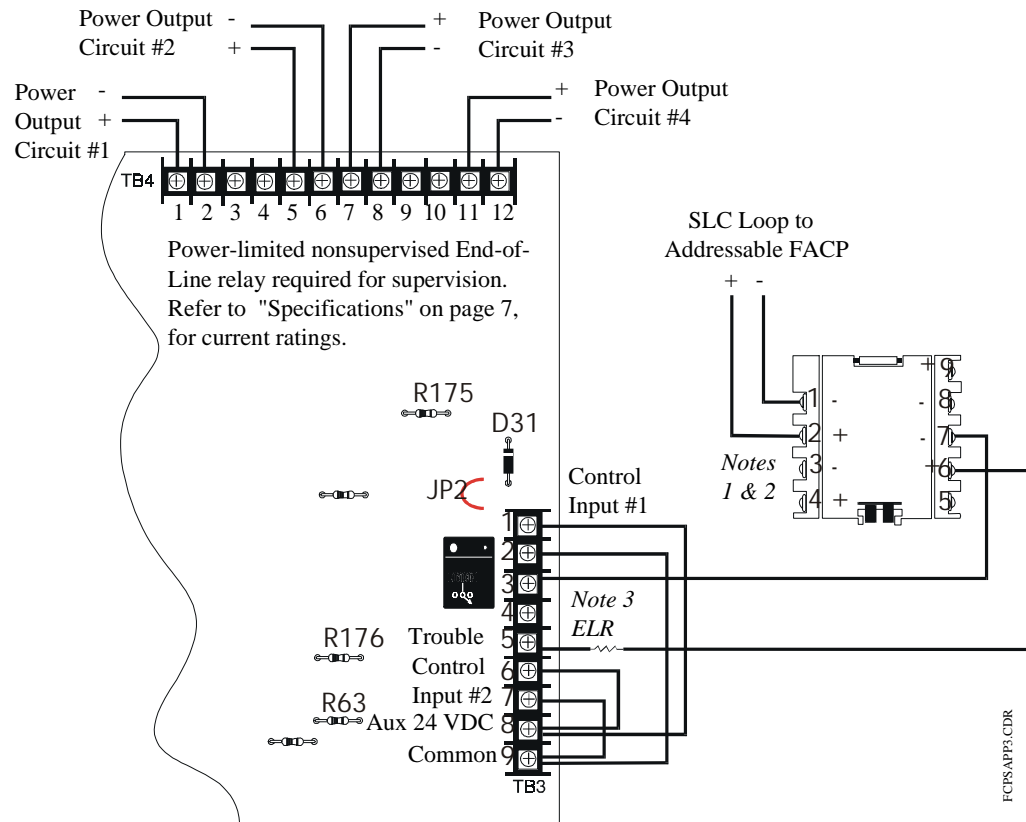
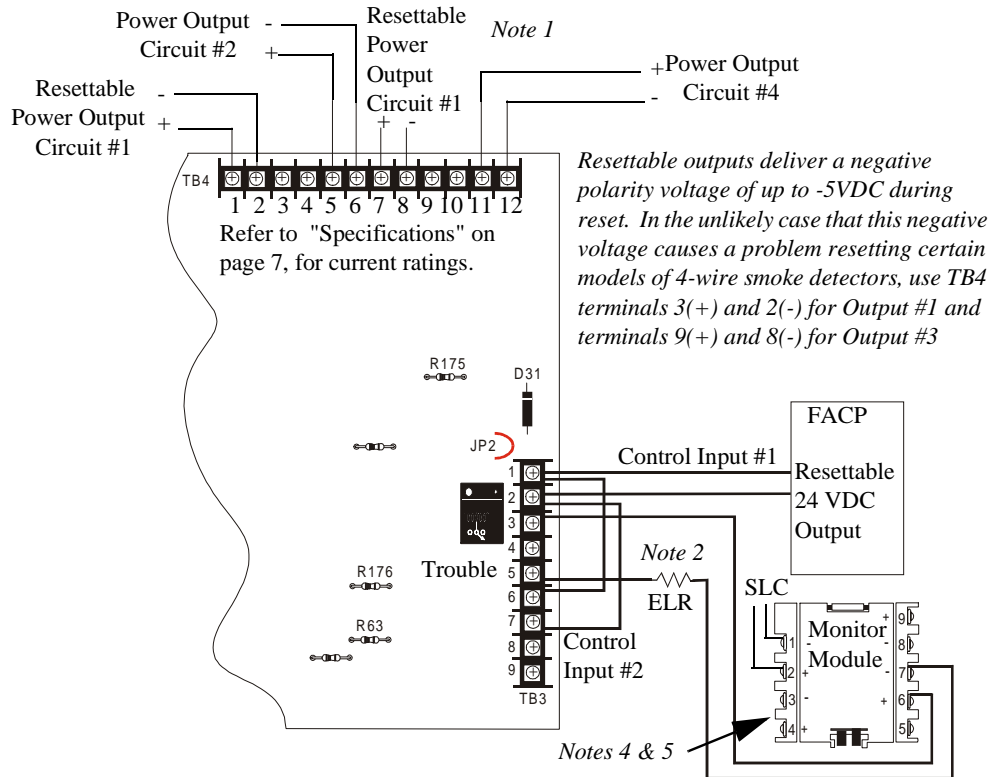
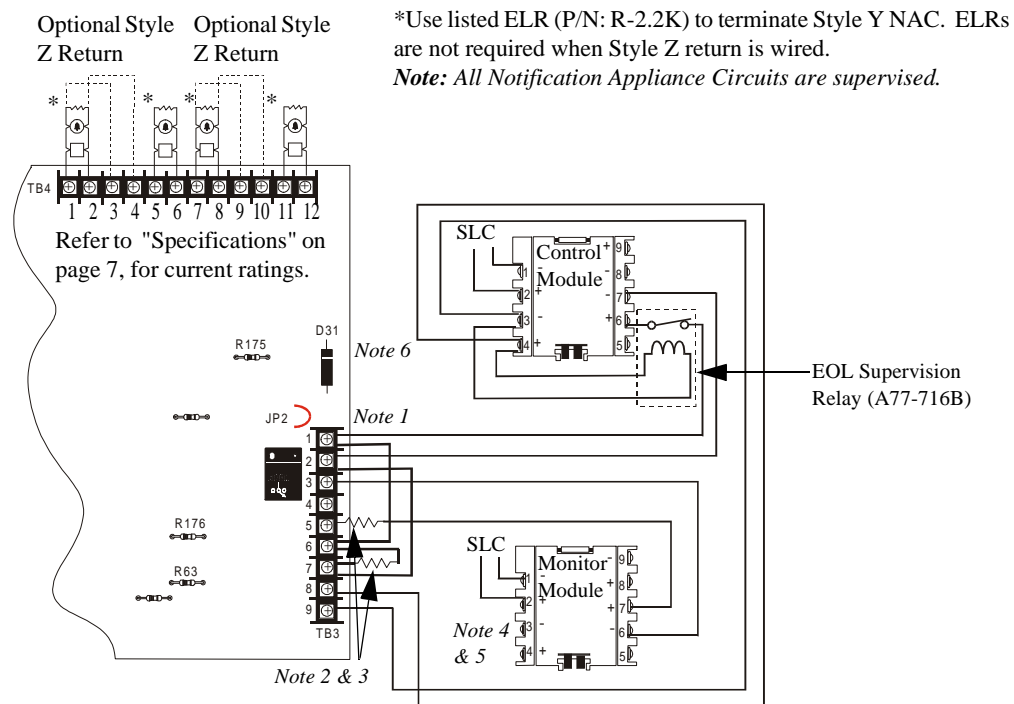

Figure 4.5 Stand-alone Power Supply for Nonresettable Outputs
Figure 4.6 One NAC Input - Resettable & Nonresettable Outputs
Figure 4.7 Control Module Activation of Outputs
This method of supervision provides FACP annunciation of the FCPS trouble condition even if the FACP is in alarm. The FACP's Notification Appliance Circuit is not used for supervision. Cut diode D31, jumper JP2 and resistor R63. Monitor FCPS trouble contacts at TB3 terminals 3 & 5. Any trouble condition listed above will trigger the internal trouble contact regardless of voltage polarity on the Input #1. An addressable monitor module or any FACP input circuit may be used to track the condition of the trouble contact. Refer to Figure 4.5 on page 19, Figure 4.6 on page 20 and Figure 4.7 on page 21.
All four remote power supply outputs are shown as Notification Appliance Circuits. Alternately, circuits 2 and/or 4 could be used as nonresettable power output circuits which is accomplished by cutting resistors R175 for circuit #2 or R176 for circuit #4. Refer to Figure 4.5 on page 19 and Figure 4.6 on page 20.
1. When the remote power supply is in an inactive state (control module not active), a trouble on the power supply will result in an open circuit condition on the control module. As an alternative to monitor for trouble conditions, the trouble contact on the FCPS may be used for independent trouble monitoring. Refer to Figure 4.5 and Figure 4.6.
1. When the remote power supply is in an inactive state (control module not active), a trouble on the power supply will result in an open circuit condition on the control module. As an alternative to monitor for trouble conditions, the trouble contact on the FCPS may be used for independent trouble monitoring. Refer to Figure 4.6 and Figure 4.7
3. A monitor module may be used to monitor the Normally Closed trouble contacts between terminals TB3-3 and TB3-5 (refer to Figure 4.6 for monitor module connections). The trouble contacts will open if a trouble condition occurs. This application requires cutting jumper JP2, resistor R63 and diode D31